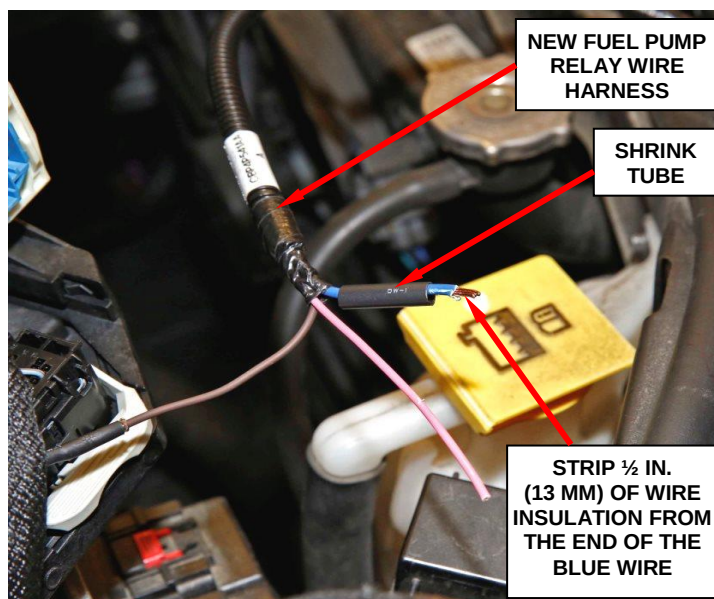

Figure 14 – Strip Wire and Install Shrink Tube
- a. Strip approximately $\frac{1}{2}$ inch (13 mm) of insulation from the end of the blue wire on the new fuel pump relay wire and the original blue (with an orange trace) wire (Figure 14).
- b. Place the black shrink tube provided in the repair kit over the cut wire (Figure 14).